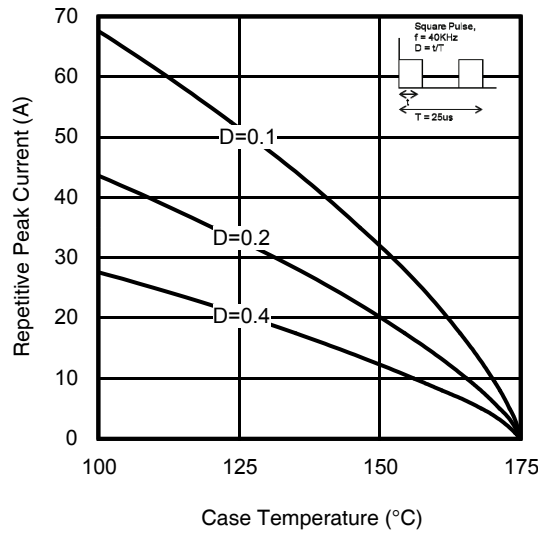

Fig 26. Maximum Diode Repetitive Forward Peak Current vs. Case Temperature
- ① V_{CC} = 80% (V_{CES}), V_{GE} = 20V, R_G = 10Ω, L=210μH.
- ② R_θ is measured at T_J of approximately 90°C.
- ③ Refer to AN-1086 for guidelines for measuring V_{(BR)CES} safely.
- ④ Pulse width limited by max. junction temperature.
- ⑤ Values influenced by parasitic L and C in measurement.
- ⑥ f_{sw} = 40KHz, refer to figure 26.